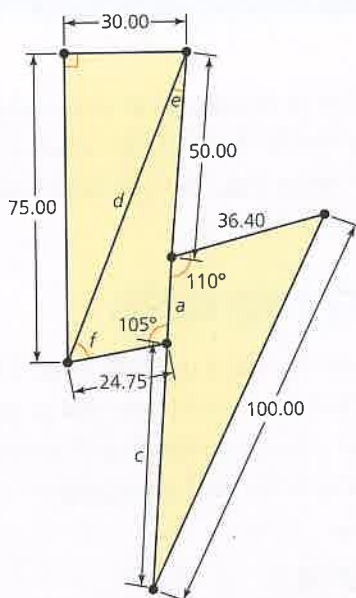

Figure 4.33 Lightning strike annotated second stage
Step 4: It is now necessary to divide the quadrilateral into triangles. By drawing in a diagonal as shown in Figure 4.33, the resulting hypotenuse can be calculated using Pythagoras' theorem.